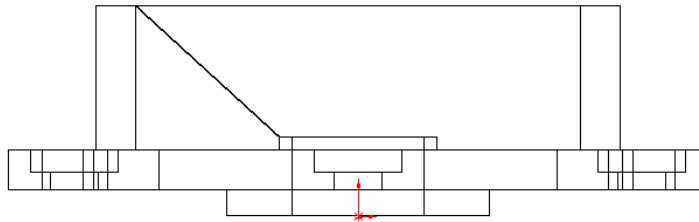

Figure 7-82 Sketch for the rib feature
- Create the rib feature, refer to Figure 7-82.
2. Set the display model to wireframe and create the sketch for the rib feature and add the required relations as shown in Figure 7-82.